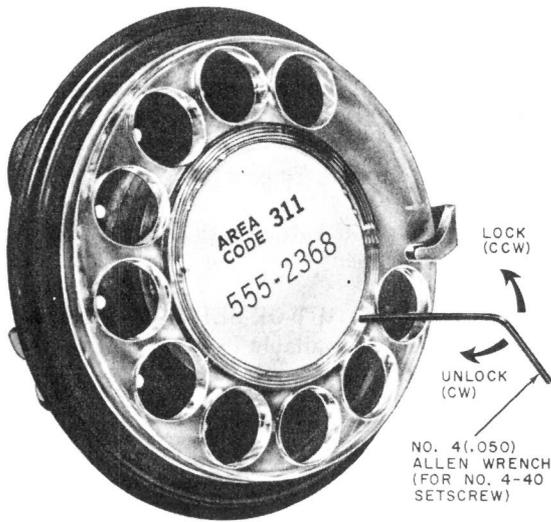

Fig. 20—Installing Fingerwheel on 8U (MD) or 8W Dial
- (1) Refer to Fig. 20, use a No. 4 (.050) Allen wrench and turn the setscrew in a clockwise direction until it clears fingerwheel.
- (1) Ensure that setscrew is all the way in (clockwise).
- (2) Place fingerwheel on dial with operator hole over the 9 position.
- (3) Rotate fingerwheel counterclockwise until it is in its normal position.
- (4) Using a No. 4 (.050) Allen wrench, turn the setscrew in a counterclockwise direction until the stop is reached (Fig. 20).